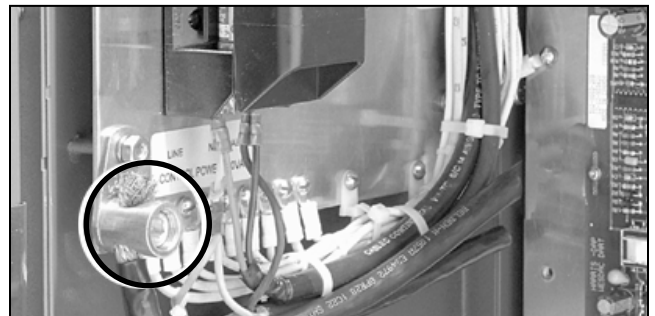

Figure 125. The copper lug and the fuse block.
- (g) Connect the heavy shielded cable to the copper lug on the low-voltage enclosure grounding plate. See Figure 125.
**STEP 5.** Connect the line and neutral to the fuse block. See label under the fuse block. See Figure 125.